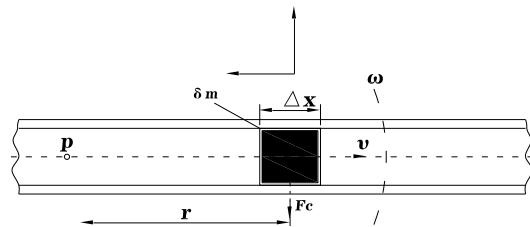

Figure 1-1
If a pipe is rotated around a point (P) while liquid is flowing through it (toward or away from the center of rotation), that fluid will generate an inertial force, with reference to Figure 1-1:
The force generated by tangential acceleration is Coriolis force, its value is equal to  $F_c = 2\omega v \delta m$ . In figure 1.1 fluid  $\delta m = \rho A \times \Delta X$ , So Coriolis force can be expressed as: